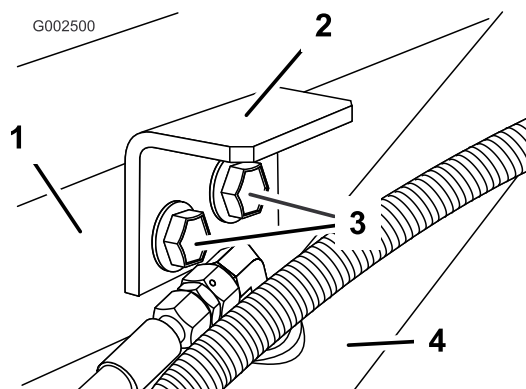

Figure 18
3. Install the hold-down brackets using the two bolts and flange nuts removed previously (Figure 18).